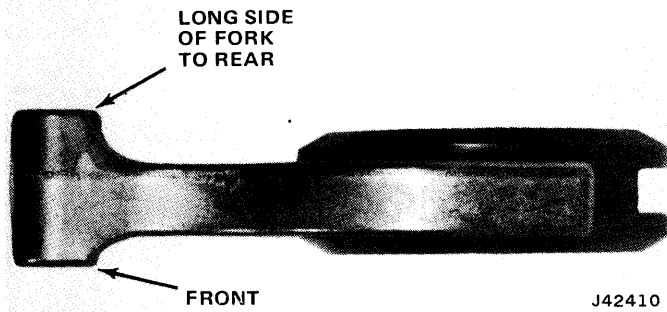

Fig. 8-56 Shift Fork and Lockup Hub Assembly
- (8) Remove lockup hub.
- (9) Lubricate and install shifting shoes in shift fork.
- Install lockup hub in shift fork (fig. 8-56).